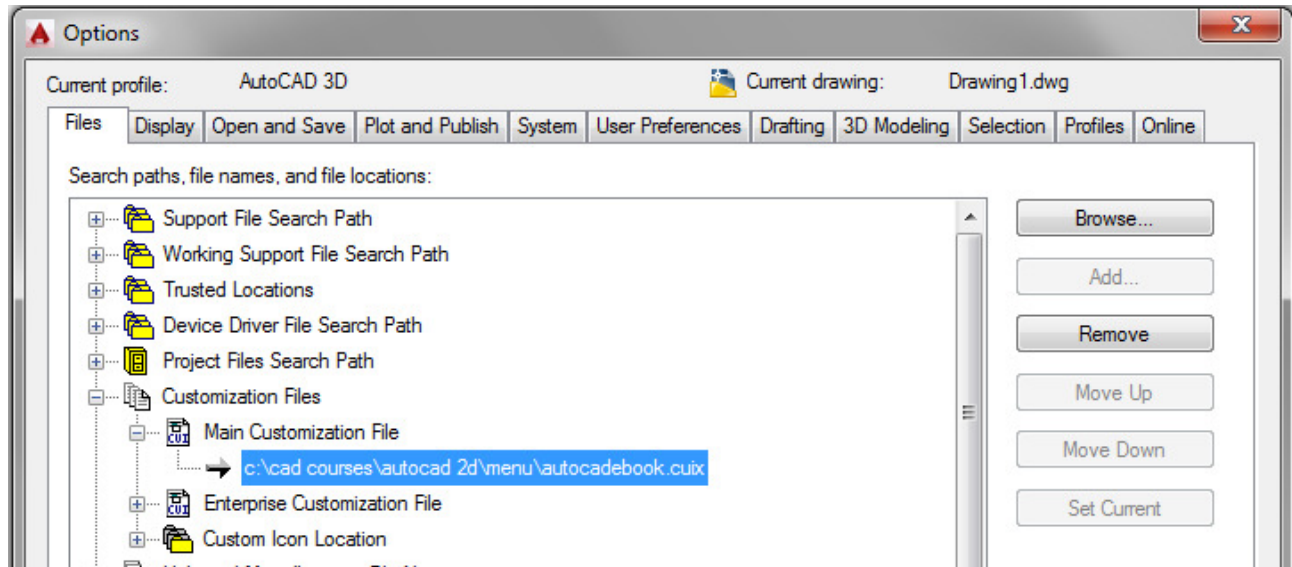

Figure Step 6
Step 6 Enable the display of the Files tab. Click the + on Customization Files to expand it. Click the + on the Main Customization File to expand it. Click the file and location to highlight it as shown in the figure. While it is selected, click the Remove button. (Figure Step 6)